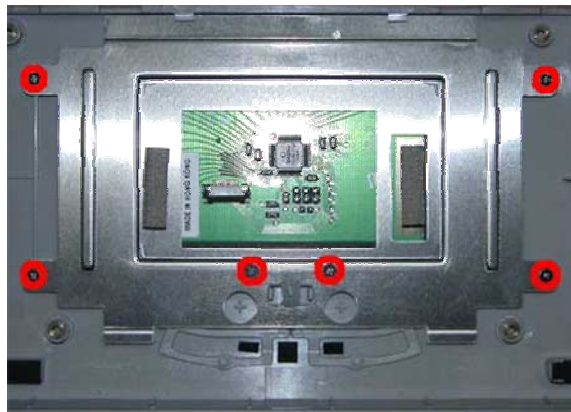

Fig. 34 Touch Pad
1. Unscrew the screws on the Touch Pad Holder as shown in Fig. 34